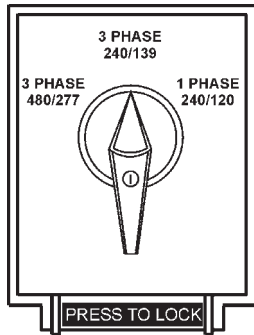

Figure 22. Voltage Selector Switch 240/139V Three-Phase Position
1. Place the voltage selector switch in the 3Ø 240/139V position as shown in Figure 22.
2. Connect the load wires to the **Output Terminal Lugs** as shown in Figure 22.